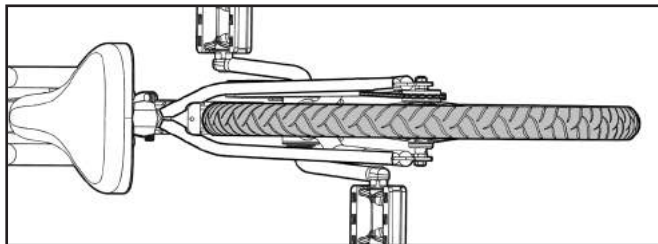

Figure 75
**NOTE:** Make sure the rear wheel is centered in the bicycle frame (see Figure 75).